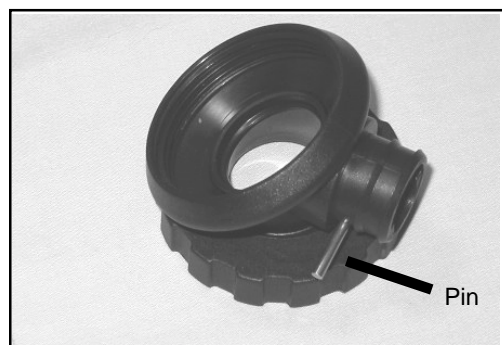

Fig. 6
1. To install the RAPID EXHAUST CABLE with Arm (6) and CORRUGATED AIRWAY HOSE (8) on to the UPPER HOUSING BODY ASSEMBLY (4):
- b. Lay the UPPER HOUSING BODY ASSEMBLY flat with the Retaining Nut facing down and insert the RAPID EXHAUST PIN (5) partially into one of the Pin Holes in the side of the Airway Hose Inlet (Fig. 6).